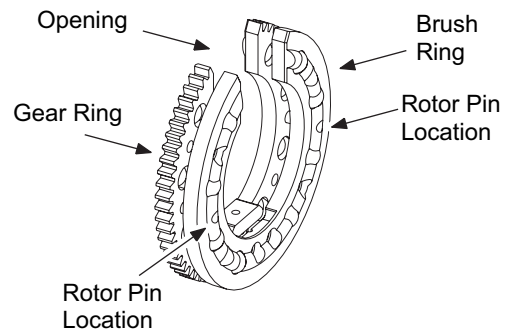

Figure 39 *Placing the Rotor on the Work Surface*
2. Place the rotor on a clean, dry surface with the rotor opening facing up. Separate the gear ring from the brush ring enough to clear the two rotor pins. See Figure 39.